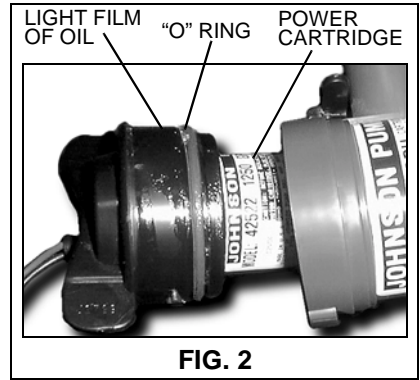

FIG. 2
1. Make sure the “O” ring is properly located and coat the “O” ring with a light film of vegetable oil or mineral oil (Fig. 2).